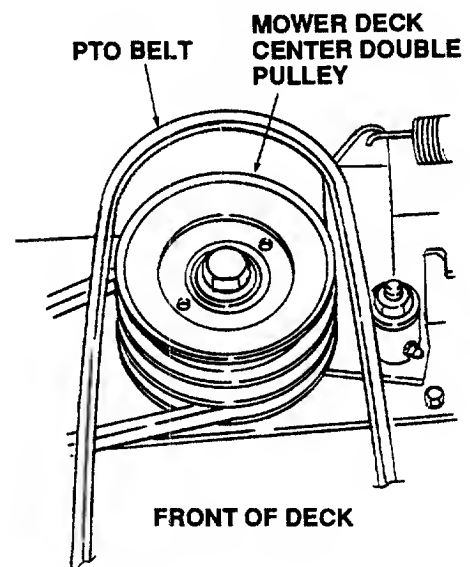

Figure 57
16. Install the rearward end of the PTO belt on the upper pulley of the deck center double-pulley (Refer to Figure 57). Ensure that the narrow side of the belt engages the groove of the upper pulley.